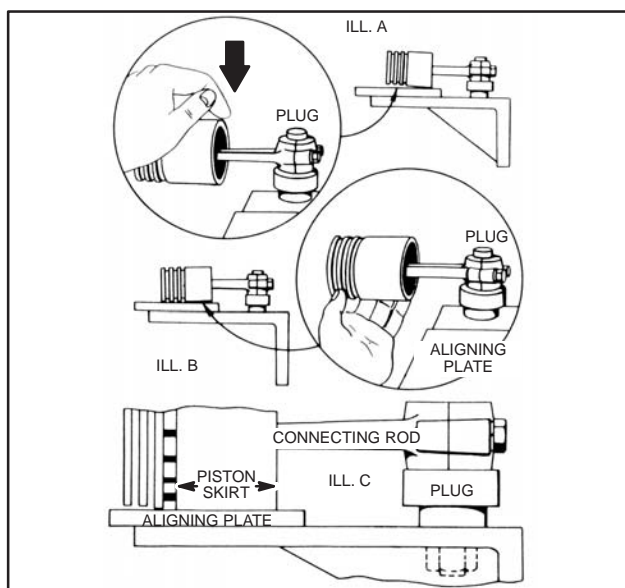

Fig. 548 – ALIGNING ROD AND PISTON
**NOTE:** On some pistons the skirt is ground tapered. In such cases there will be a slight space at oil ring end of skirt. This space must be equal on both sides in order to have the piston and rod in perfect alignment. If skirt does not touch plate evenly, bend rod by tapping with palm of hand as shown in Fig. 548, Ill. A or B whichever is indicated.